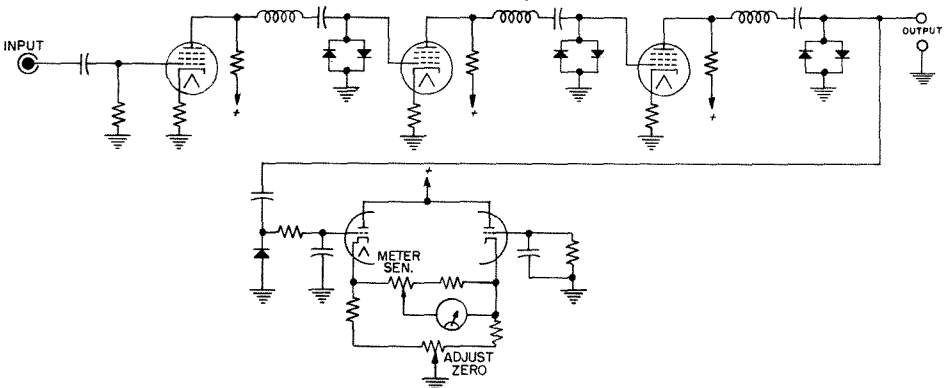

Figure 2. Elementary Schematic Diagram.
**1.2.1 GENERAL.** The Unit Null Detector is a three-stage, wide-band, pentode amplifier with a maximum gain of about 70 db. As shown in the elementary schematic diagram (Figure 2), a pair of germanium crystal diodes are connected back-to-back in the output of each stage to obtain a quasilogarithmic input-output characteristic. When the voltage on a pair of diodes is low the impedance is high and the gain of the associated stage is at maximum. Three of these stages are cascaded to produce the quasilogarithmic response over a wide